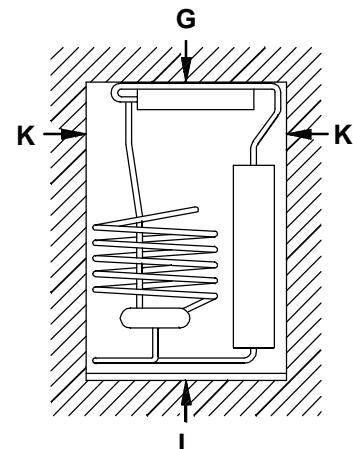

FIG. 4
**Note:** The upper part of the recess, where the wall meets the top frame of the refrigerator, must be equipped with a wooden crossbar in which the two screws can be installed, see FIG. 4 page 5.